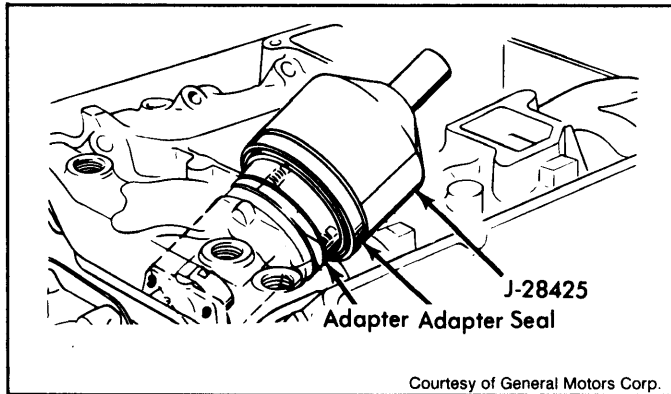

Fig. 5: Installation of New Adapter Seal
3) Push seal onto pump adapter using installer. See Fig. 5. Remove seal installer. Observe seal for proper positioning. Torque adapter bolts to 25 ft. lbs.